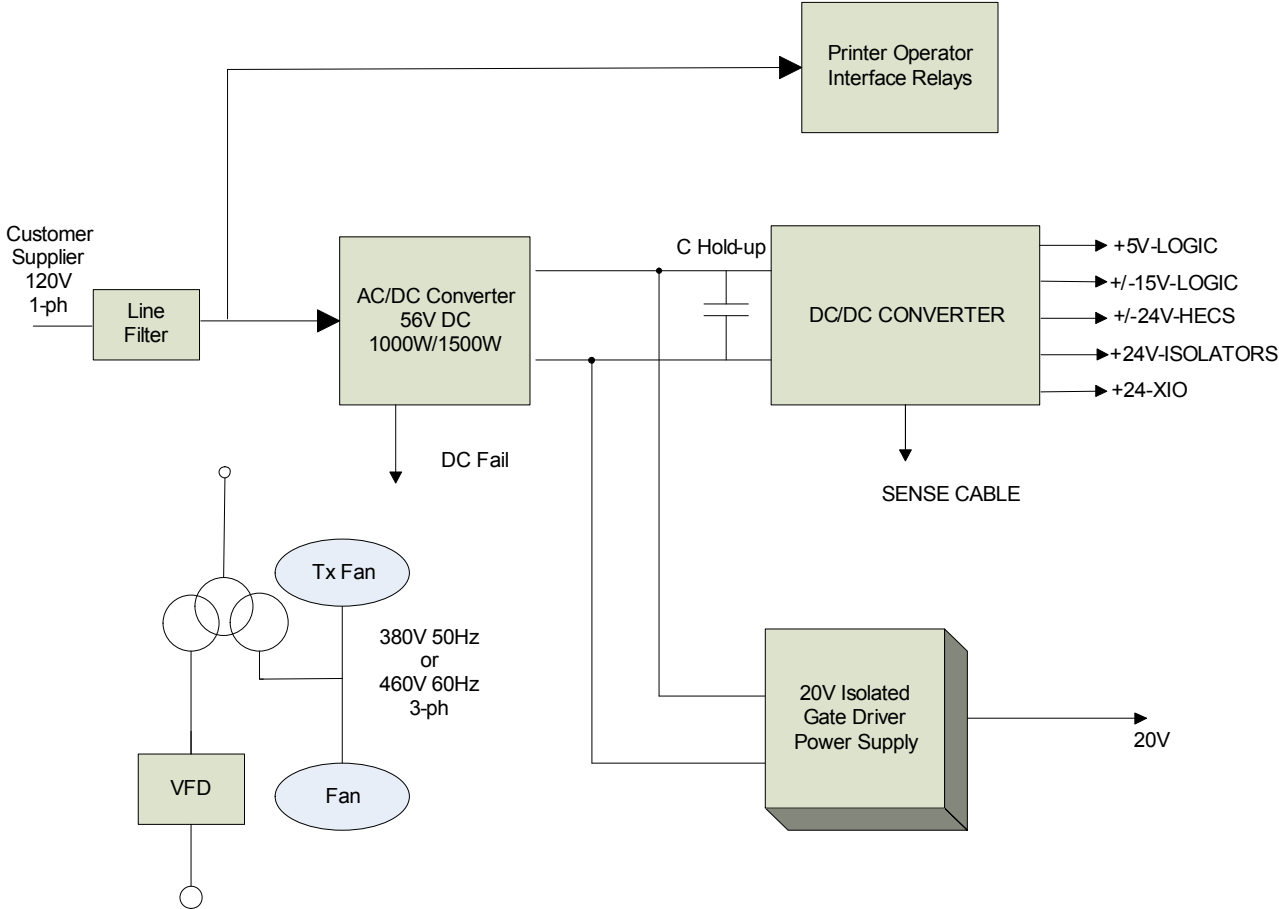

Figure 4.29 – AFE Rectifier with Integral Isolation Transformer (Configuration #3)
3. AFE Rectifier with Integral Isolation Transformer – Config. #3 (refer to Figure 4.29)
Figure 4.29 illustrates the control power distribution for AFE drives with integral transformer and remote starter.